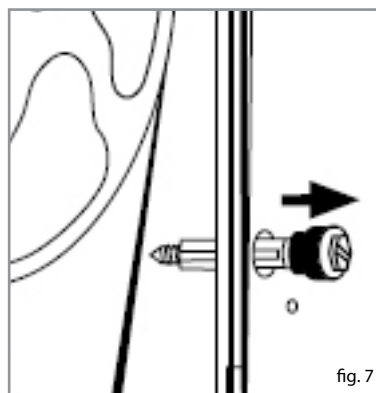

fig. 7
- Loosen the transit bolts (T1, T2, T3 & T4 in fig. 7) using a suitable spanner by turning them anti-clockwise and then remove them.